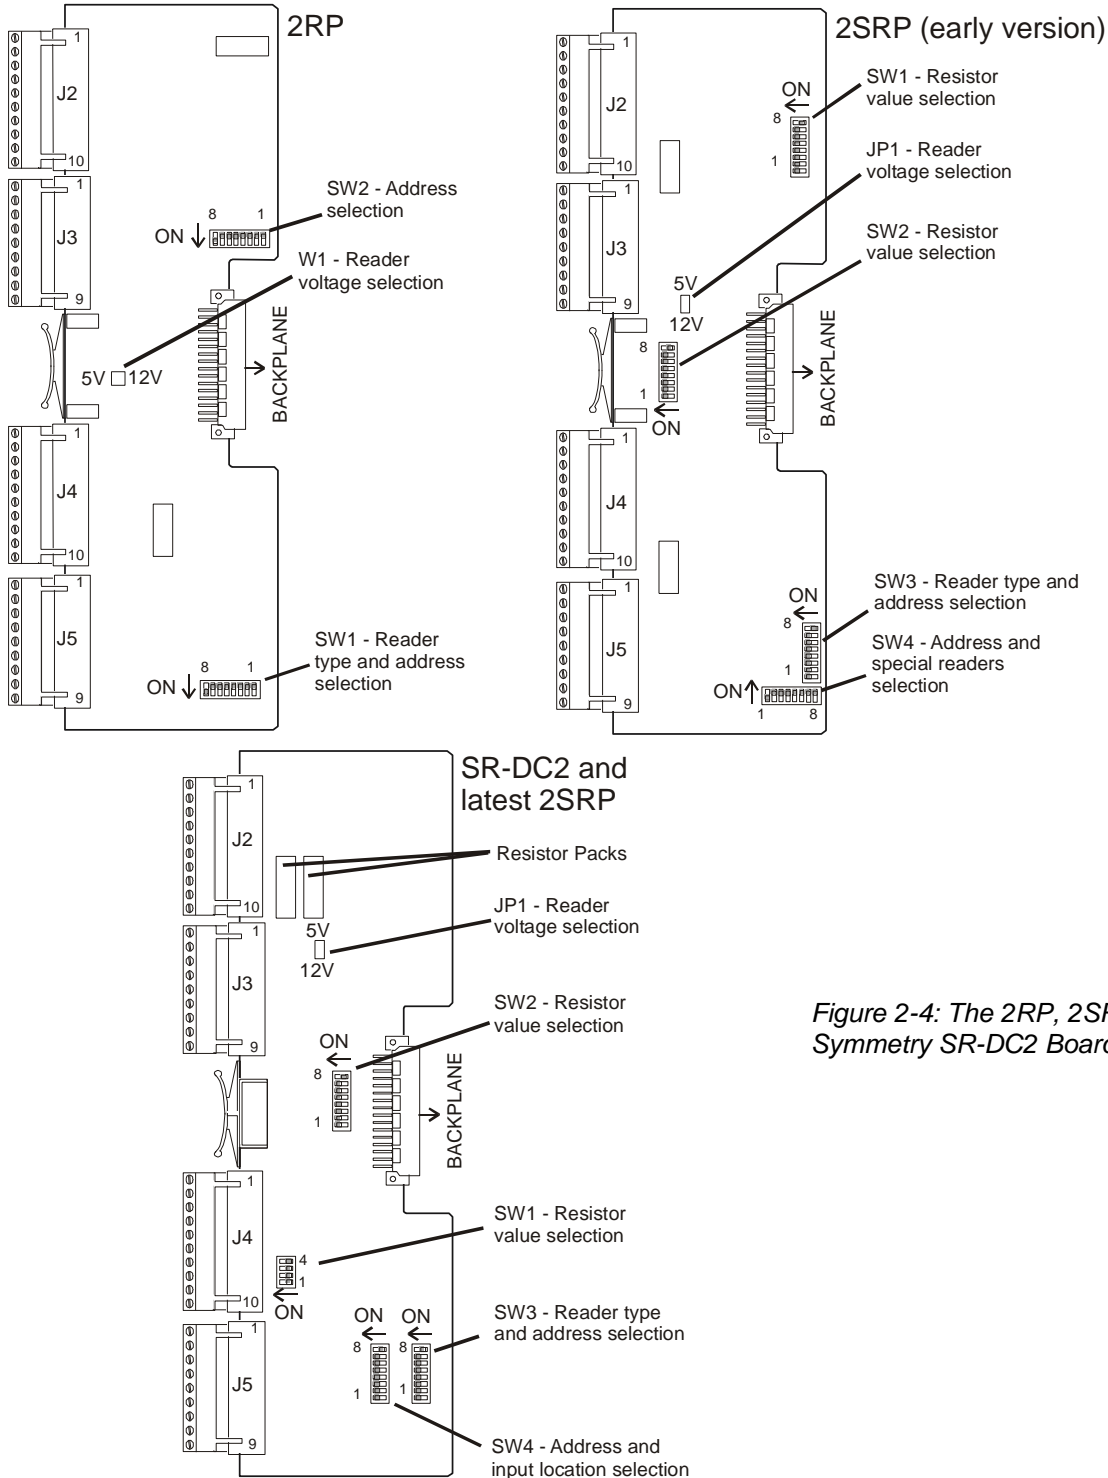

Figure 2-4: The 2RP, 2SRP and Symmetry SR-DC2 Boards
Note: If the node is fitted with four 16DOR/16DO boards, it is essential to check whether any 2RP/2SRP 2-reader boards are also fitted. Refer to Figure 2-4 if you need help to identify a 2RP/2SRP. If the node contains a 2RP/2SRP:
You can use Figure 2-4 to help to identify any 2RP/2SRP boards the node may contain, although please be aware that the location and size of the DIP switches and other components may vary between versions. The Symmetry replacement is the SR-DC2, which is also shown in Figure 2-4.
7. Determine whether the Reader Voltage Selection jumper on the 2RP/2SRP is set to 5V or 12V and make the same setting on the SR-DC2. Figure 2-4 shows the locations of the jumpers.
8. Fit the correct resistor packs to the SR-DC2 (see Figure 2-4). Use a 5V resistor pack or 12V resistor pack, depending on the setting of the Reader Voltage Selection jumper.